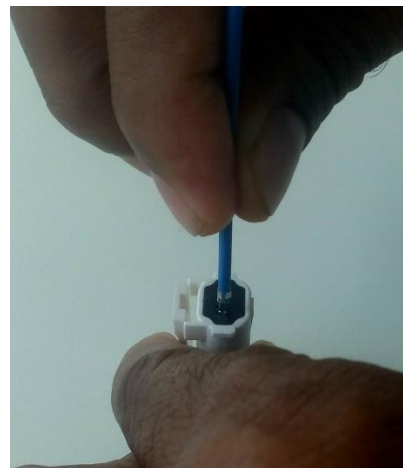

Figure 8
3. Insert the terminal gently into the housing as shown figure 8. Push gently inside and align to the internal hole manually in case of any stub due to bend in insertion.